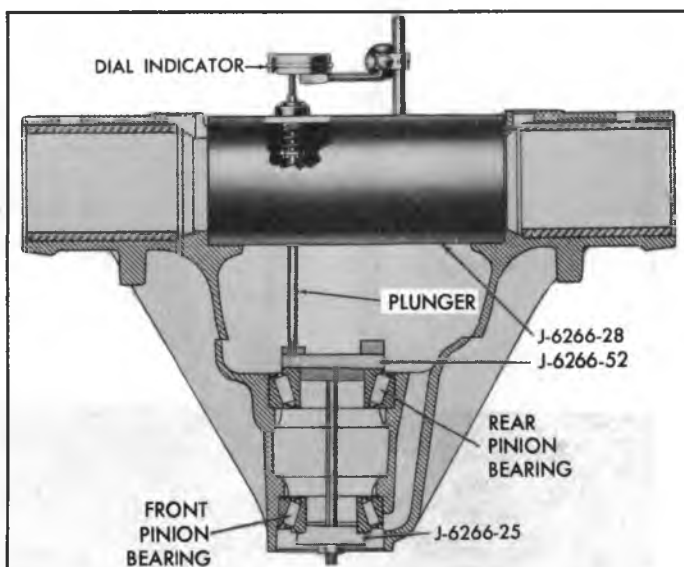

Fig. 10B-Installed View of Pinion Depth Gauge (Light-Duty Passenger Axle)
2. For Passenger Cars: Light-Duty Axles-J-6266-52-position gauge plate with lower surface (x stamped near low side) toward top of carrier as shown in Figure 10B.